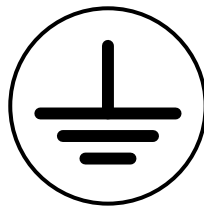

Figure 3-2. – Protective Earth (ground) Symbol to IEC 60417 (Symbol 5019)
- If this value is not achieved then the module must be separately earthed via the M10 earth terminal at the lower front face of the modules. The M10 earth terminal is identified on the module by the symbol shown in Figure 3-2.